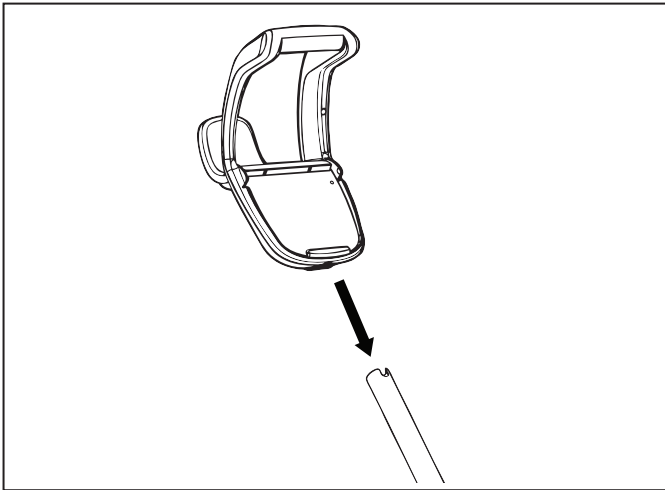

Figure 6. Attach Caddy Handle
7. Slide the control box base / caddy handle attachment down over the metal tubing until it snaps into place. (See Figure 6).